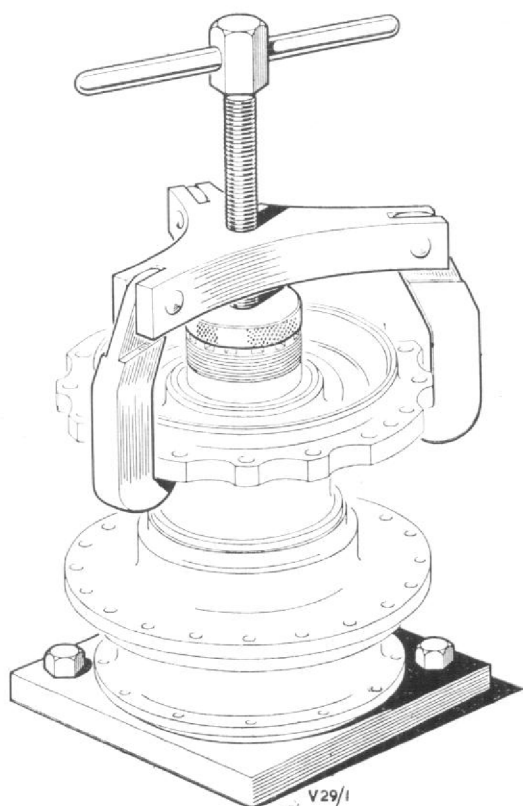

Fig. 8. Using bench fixture T.75716, adapter T.73067, and extractor T.73068 to separate the hub shaft from the extension shaft.
4. Place the rounded end of the screw of extractor T.73068 in the depression provided in the adapter, and engage the three claws under the flange of the extension shaft, Fig. 8; draw off the extension shaft.